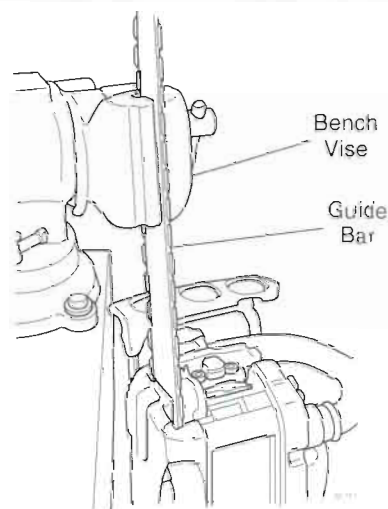

Figure 13.12 Access to the Carburetor
For easier access during 357 carburetor service, install the guide bar and hang the saw vertically from a vise as shown (Figure 13.12).
- For easier handling during carburetor installation, install the guide bar and hang the saw in a vise as previously shown in Figure 13.12 of this section.